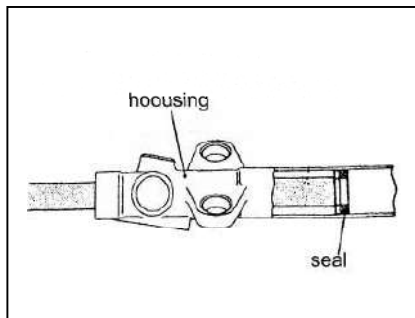

Fig 17-32
9) OIL SEAL REMOVAL(See fig 17-32)